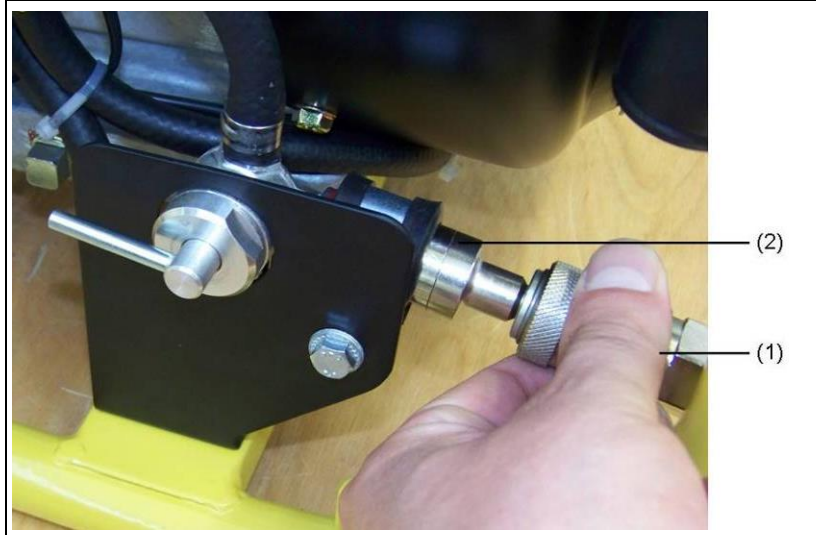

Fig. 5-12: Connect up fuelling device
2. Place the quick-action coupling (Fig. 5-12-(1)) on the external fuelling connection (Fig. 5-12-(2)).
1. Pull back the knurled sleeve on the quick-action coupling (Fig. 5-12-(1)).